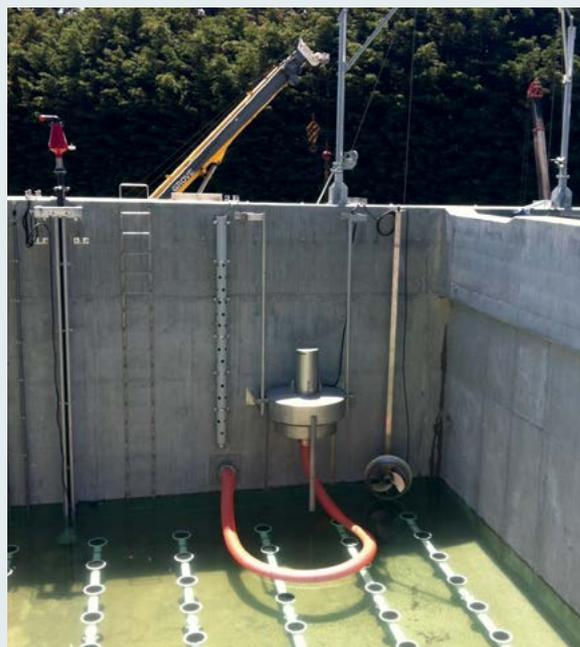

Figure 1
- **2 x 800m³ SBR tanks (400m³ live volume per cycle) with diffused aeration, submersible mixers, sludge wasting pumps, floating decants and monitoring probes.** Shown in Figure 1.